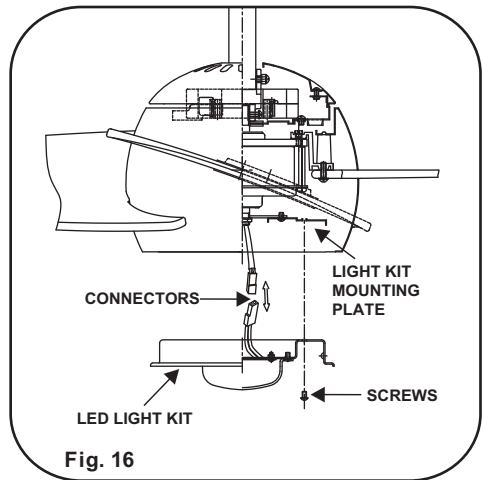

Fig. 16
2. While holding the 18W LED light kit under the fan motor assembly, make the 2-pin wire connections (Fig. 16):
3. Place the key holes from the LED light kit over the 2 screws previously loosened from the light kit mounting plate, turn light kit until it locks in place at the narrow section of the key holes. Secure by tightening the 2 screws previously loosened and the one previously removed. (Fig. 16).